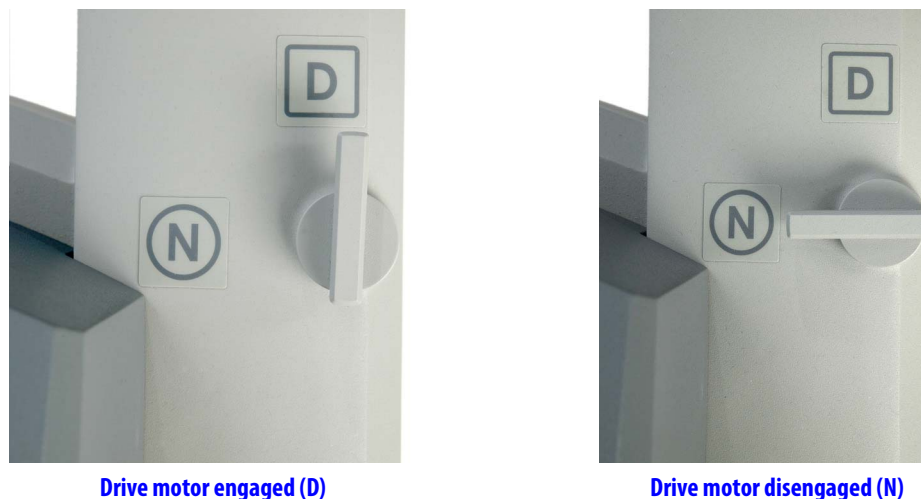

Figure 3.8 Patient Cart motor drive shift switches
2. Ensure the shift switches are in the drive position (see Figure 3.8).
⚠ WARNING: For patient safety, both shift switches must be kept in the drive (D) position so that the motor drive remains engaged during surgery (see Figure 3.8).
In the event the Patient Cart should need to be moved without use of the motor drive (for example, during a power loss), rotate both shift switches (Figure 3.8) to the neutral (N) position. The cart can then be moved manually. Once you have finished moving the cart, place both shift switches in the drive (D) position to set the Patient Cart brakes.
i Note: The cart is capable of passing over thresholds of up to 10 mm high by 80 mm wide. If a threshold is high enough that the motor drive is not able to drive over it, the cart can be manually pushed over the threshold. Put the shift switches (Figure 3.8) in “N” for neutral, and manually push the cart over the threshold.